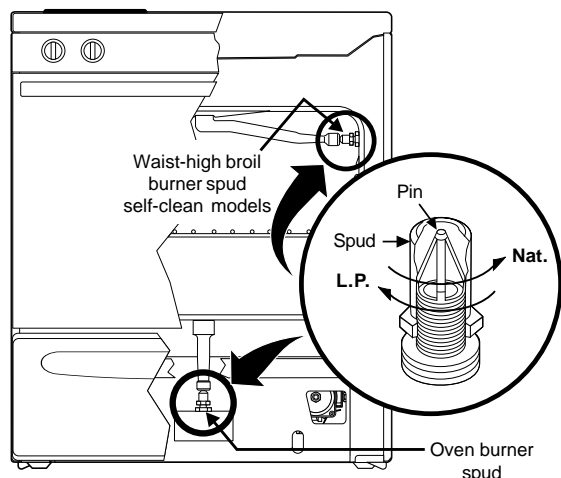

Fig. 11
- Locate the oven burner (See Fig. 11) spud (orifice).
- Locate (See Fig. 11) the broiler burner spud (orifice) and turn down until snug against the L.P./Propane metering pin (approximately 1 to 1-1/2 turns). **DO NOT** over tighten.